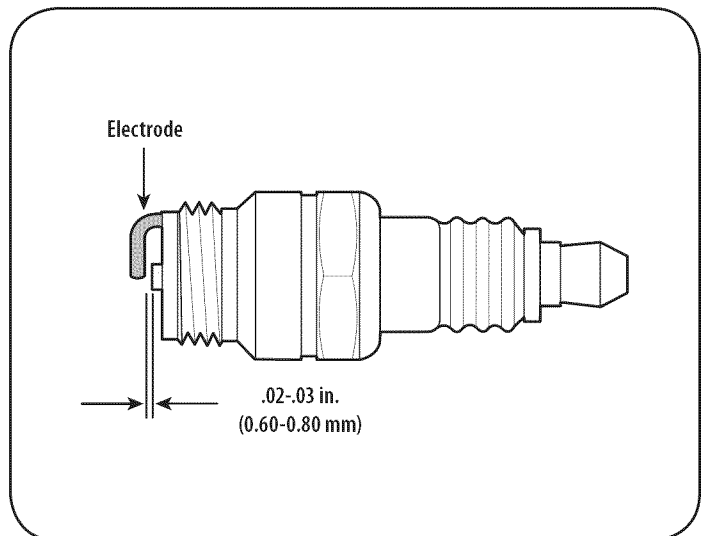

Figure 22
3. Measure the plug gap with a feeler gauge. Correct as necessary by bending side electrode. See Figure 22. The gap should be set to .02-.03 inches (0.60-0.80 mm).